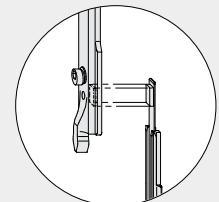

Figure 1
- > A** Insert slider (page 2: 35) with operating rod S4 and corner drive VSU/BSO (36) vertically on the BSO.
- B** Insert slider DK (21), stay LM 4200 (20) and operating rod S3 horizontally on the VSO.
- > C** Insert locking bolt DK (21), stay LM 4200 (20), operating rod S3 and striker plate (40) horizontally on the VSO.
- > D** Couple locking bolt DK (21) with corner drive VSU/BSO (36). Make sure positioning of the coupling piece for corner drive VSU/BSO (36) is correct.
- E** Attach stay hinge (10/16) and stay LM 4200 (20) using countersunk screw M5 x 7 (11/17) (torque 2.5 ± 0.25 Nm).
- F** Position stay hinge (10/16) according to specifications on page 4 and fasten stay LM 4200 (20) with punching screws.
- > G** Insert slider (35) with operating rod S5 and corner drive VSU/BSO (36) vertically on the VSU.
- H** Insert tilt lock 10 mm (25), operating rod S1, coupling bracket LM (29/33), operating rod S2 and corner drive VSO (23.1/23.2) vertically on the VSO.
- > I** Couple tilt lock 10 mm (25) with corner drive VSU/BSO (36). Make sure positioning of coupling piece for corner drive VSU/BSO (36) is correct (Figure 1).
- J** Couple corner drive VSO (23.1/23.2) with operating rod S3 "►striking plate (40)" and secure with clamping piece EUL (22).
- K** Insert run-up block (27) horizontally on the VSU.
- L** Attach handle LM (1) with cheese head screws M5 x 12 (30) (torque 2.5 ± 0.25 Nm). Make sure the handle catch closes into the coupling bracket LM (29).
- M** Attach mishandling device LM on rebate (32) with cheese head screws M5 x 12 (31) to handle LM (1) (torque 2.5 ± 0.25 Nm). Make sure the handle catch closes into the coupling bracket LM (33).
- N** Press bottom hinge pin (4) into corner hinge (5) DIN right or DIN left.
- O** Insert clamping piece E (6) vertically on the BSU and attach corner hinge (5) using countersunk screws M5 x 8.5 (3) (torque 2.5 ± 0.25 Nm).
- P** Insert corner hinge right/left (13) into the sash groove and fasten with the pre-installed countersunk screws M5 x 8.5 (torque 2.5 ± 0.25 Nm).